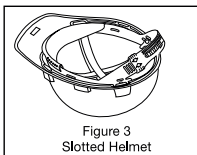

Figure 3
4. Line up the clips with the slots. Push each of the four clips into the slot (Fig. 3). You should feel and hear them snap into place.